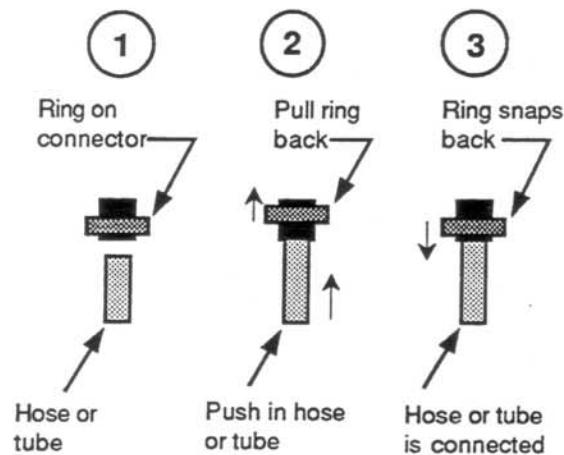

Fig. 19
- Lift the filter pan cover, and connect the filter assembly to the white quick-disconnect fitting. Figure 19 shows how to use the quick-disconnect. Sprinkle 12 oz. of precoat powder onto the filter paper.